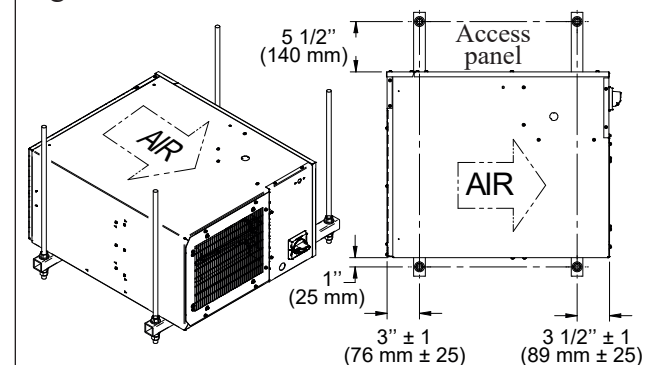

Figure 4
- 6- This heater is approved zero clearance but must be installed according to the minimum clearances indicated (Figure 4) to keep access to side panel.
- 4- This heater is approved zero clearance but must be installed according to the minimum clearances indicated (Figure 4) to keep access to side panel.